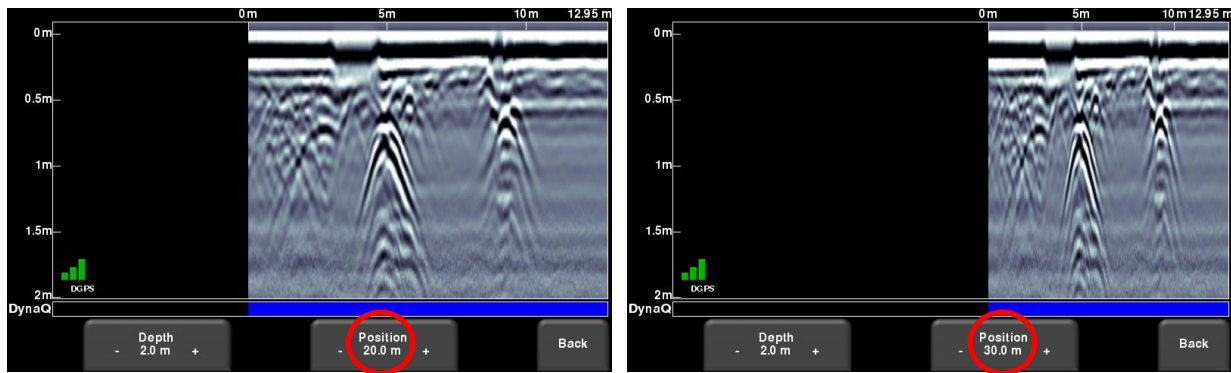

Figure 6-13: Varying position, or horizontal scaling
- **Position** – Pressing + and - under the **Position** button allows you to change the length of data display on a single screen. This is also known as horizontal scaling (Figure 6-13) One reason for setting this higher would be to fit more data on the screen and look for consistency among hyperbolas that were crossed.